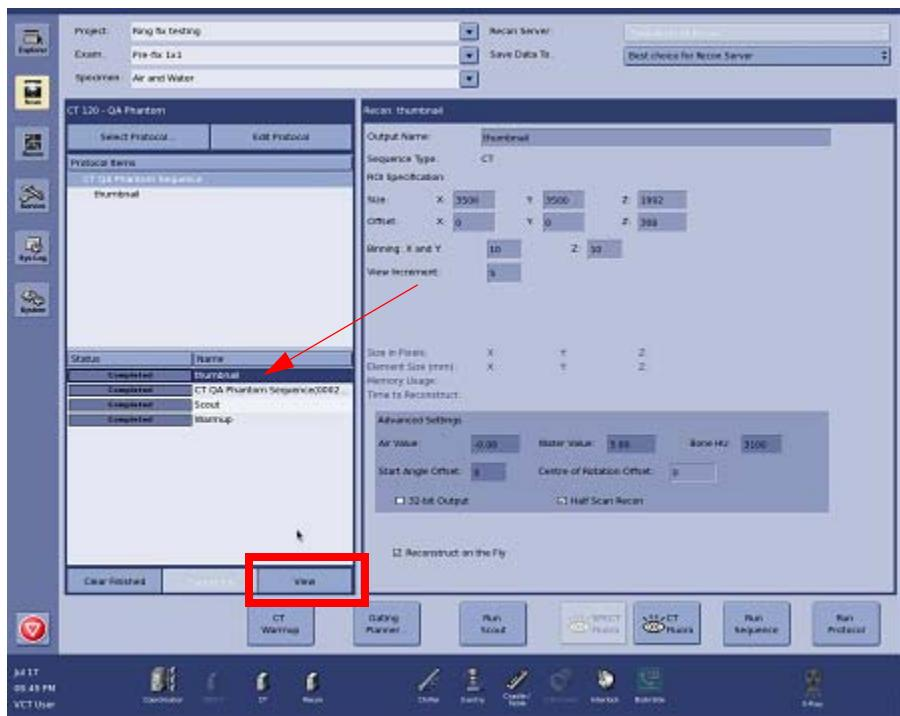

Figure 7-105
- 9.) Open the thumbnail in MicroView by clicking on "thumbnail" under Name in Figure 7-105. Click the View button in the bottom left area of the Scan page.